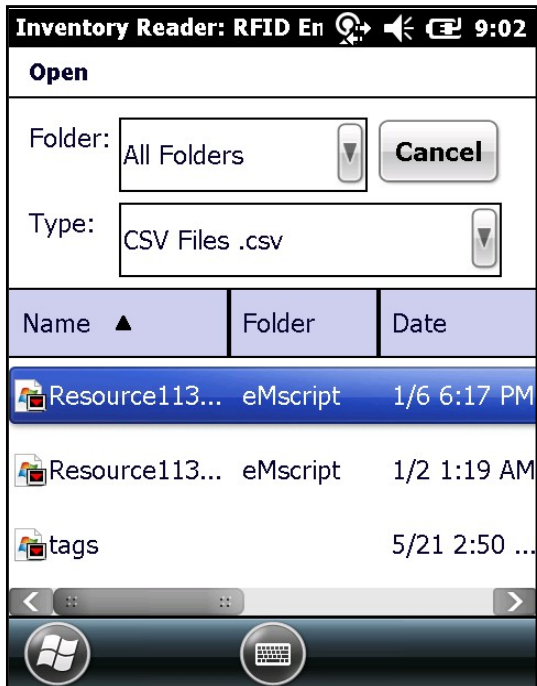

Figure 5-3 *Opening a .csv File*
1. Select the **Import Tags** button to import a list of saved tags from a .csv file. The window in Figure 5-3 displays.